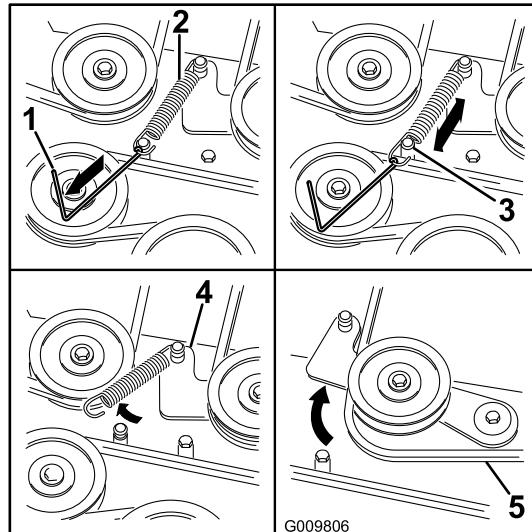

Figure 73
6. Using a spring removal tool, (Toro part no. 92-5771), remove the idler spring from the deck post to remove tension on the idler pulley (Figure 73).
9. Install the new belt around the mower pulleys and the clutch pulley under the engine (Figure 73).
10. Using a spring removal tool, (Toro part no. 92-5771), install the idler spring over the deck post and placing tension on the idler pulley and mower belt (Figure 73).